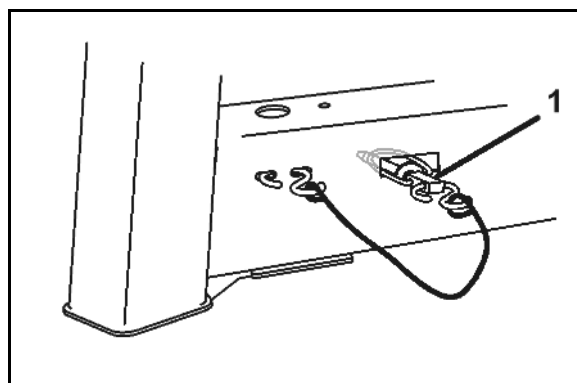

Fig. 44
5. Steerable brake rollers (Fig. 44/1), front
- o Install and secure with clip pin (Fig. 44/2)